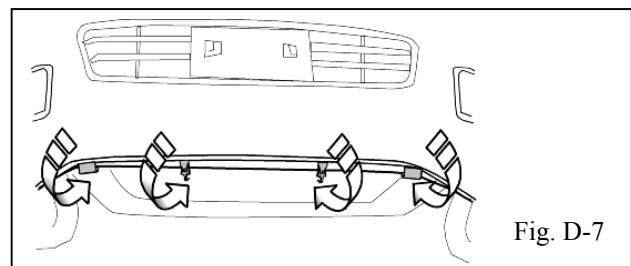

Fig. D-7
- ➡ 7. Attach four (2) elastics with “S” hooks and two (2) clips to the bottom edge of the bumper fascia underneath the vehicle (Fig. D-7.)